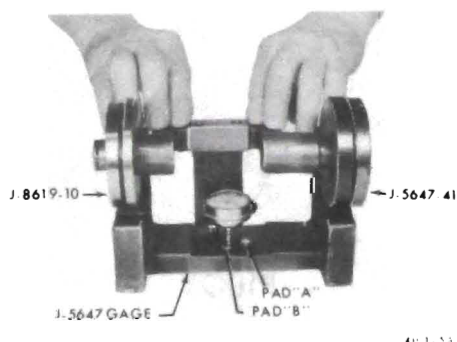

Figure 40-104 - Zeroing Pinion Setting Gage
5. Place the indicator gage on the master gage, as shown in Figure 40-104 so that its spring loaded center is engaged in the centering hole for Pad "B" on the Master Gage.
Bearing preload should read 35-40 lb. in. of rotating torque with new bearings or 20-25 lb. in. of rotating torque with reused bearings. See Figure 40-104. If preload is not according to these specifications, increase shim thickness on each side .002" for each additional 10 lb. in. preload desired, or decrease shim thickness .002" on each side for each 10 lb. in. preload to be subtracted.